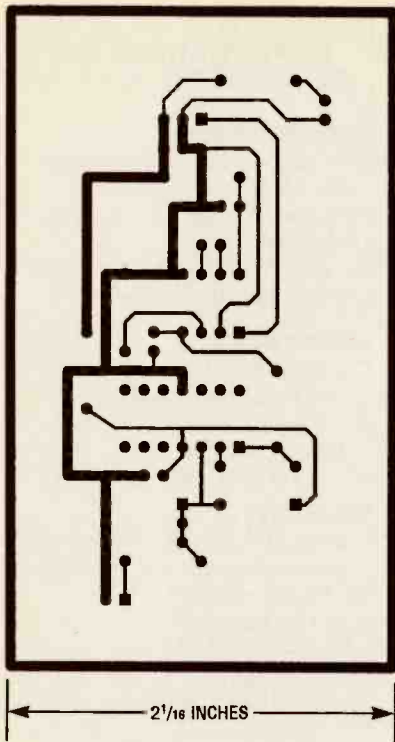

Fig. 2. It is recommended that you use this foil pattern for making your own adapter circuit board.
**Construction.** The circuit should be constructed using a printed-circuit board. You can obtain one from the author (see Parts List for ordering information), etch your own using the pattern in Fig. 2, or design your own.
Figure 2 shows the circuit. In it, R1 and R2 divide the input voltage in half. Op-amp U1 reproduces that voltage at the "ground" output terminal by making either Q1 or Q2 conduct as much as necessary. Capacitors C1 and C2
Fig. 2. In the actual circuit, a 741 op-amp (U1) is used as the regulator that controls the action of Q1 and Q2 to maintain a voltage between the input voltages.